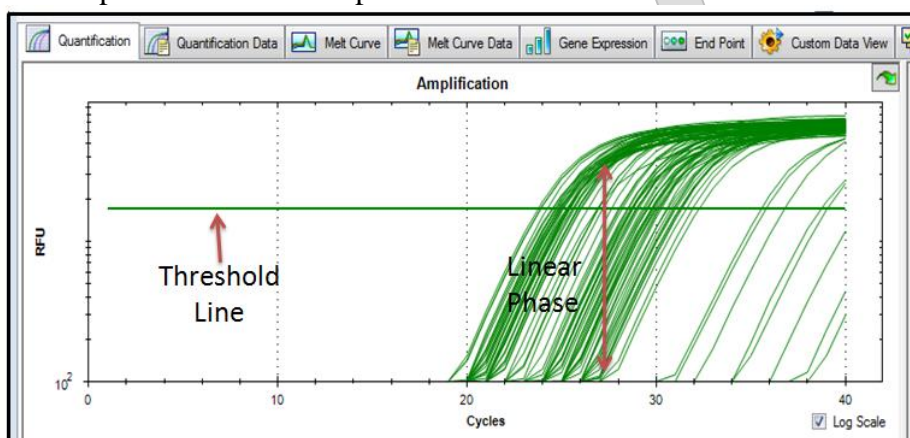

Figure 33: Threshold line example
7.2. Set the threshold line of the Amplification Plot in the Log Scale. The threshold line should be set 3/4 the way up the linear portion of the curve before the run plateaus off. See Figure 33 for an example. Consult with supervisor if unsure.